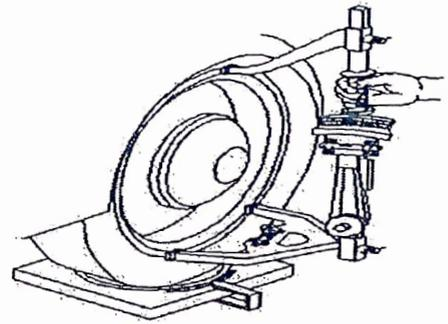

Figure 2
7. What is the servicing procedure carried out in the wheel shown in figure 2 below;